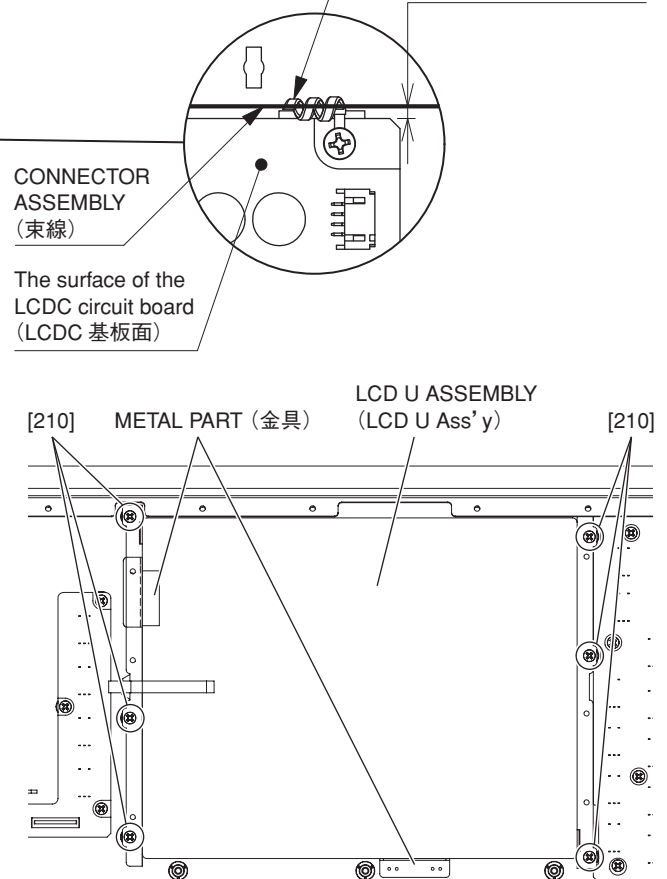

Fig. 6 (図6)
- B-2-5. Remove the six (6) screws marked [210]. The LCD U assembly can then be removed. (Fig. 6)
* **When installing the LCD U assembly, be sure to apply it to the metal part of the panel shown in fig. 6 and then tighten the screw.**
(図6)
※ LCD U Ass'yを取り付ける際は、図6に示すパネルの金具に当て付けてから、ネジを締めてください。